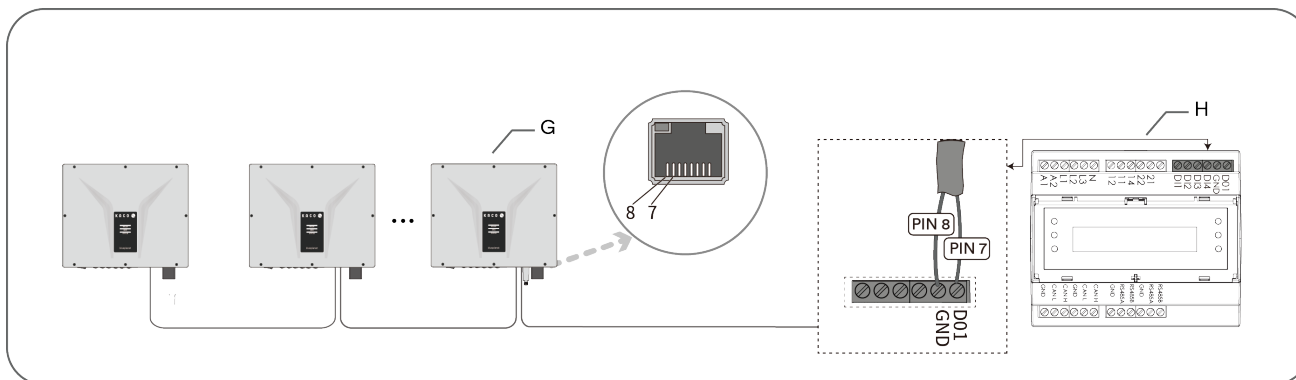

Fig. 44. Connect the network cable to Powador-protection device
8. Strip the insulation from the other side from the network cable and screw copper wire to the corresponding terminal of the Smart-Meter. Screwdriver type: SL1.5, tightening torque: 0.6 Nm (see Fig. 44).